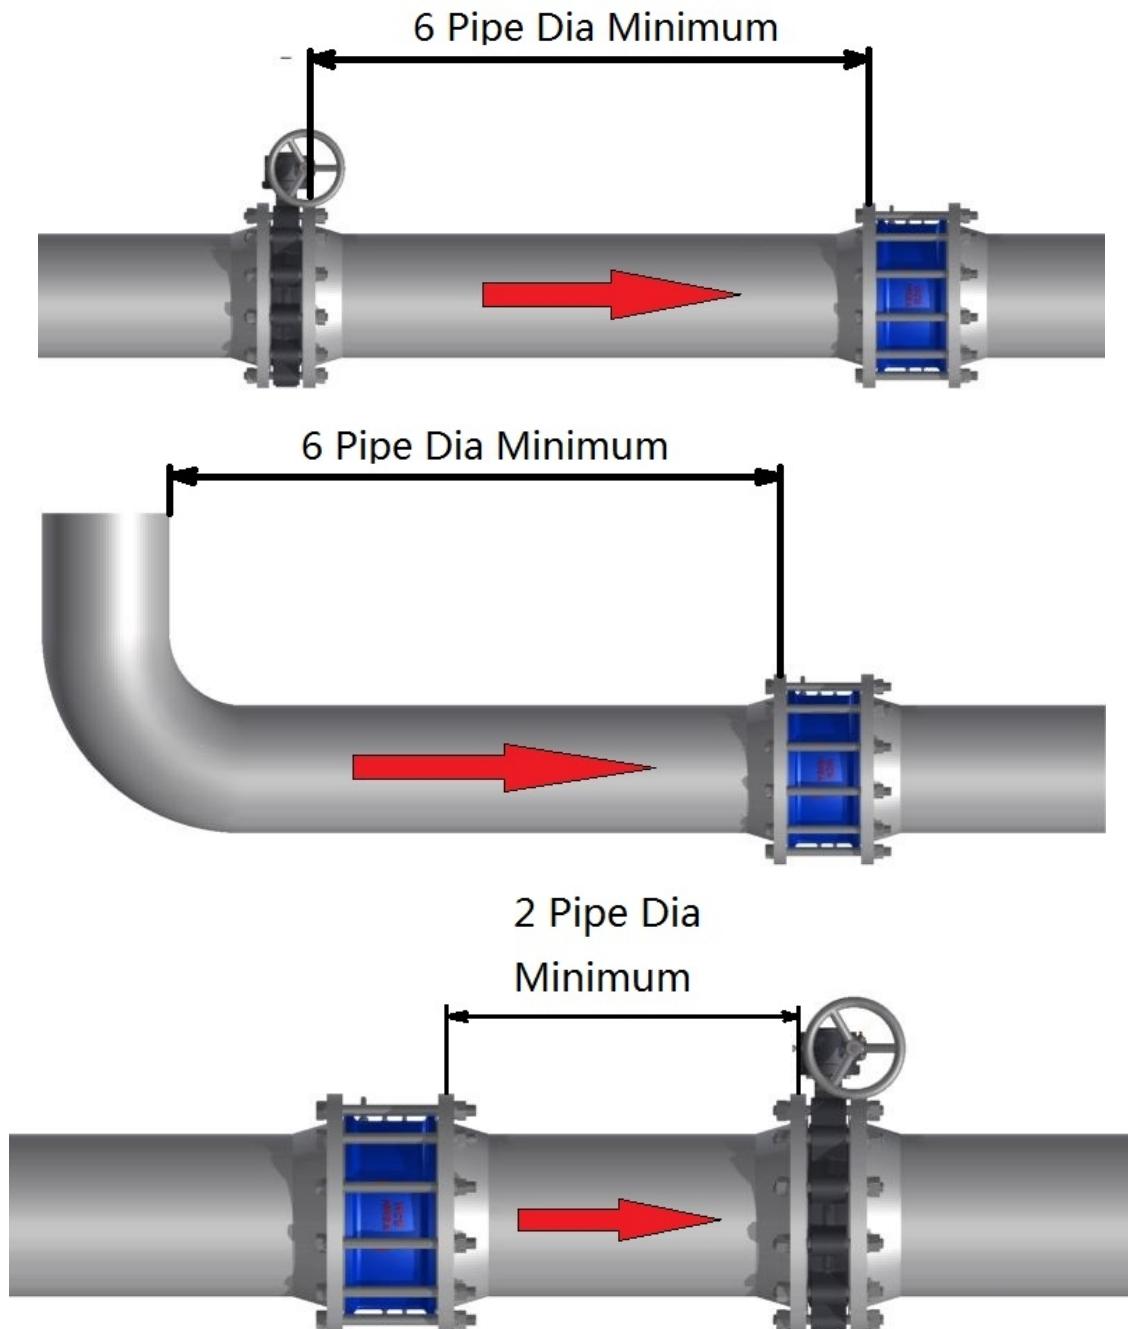

Figure 6
Step 6. It never connect **Top Check** to the others directly (figure 6).